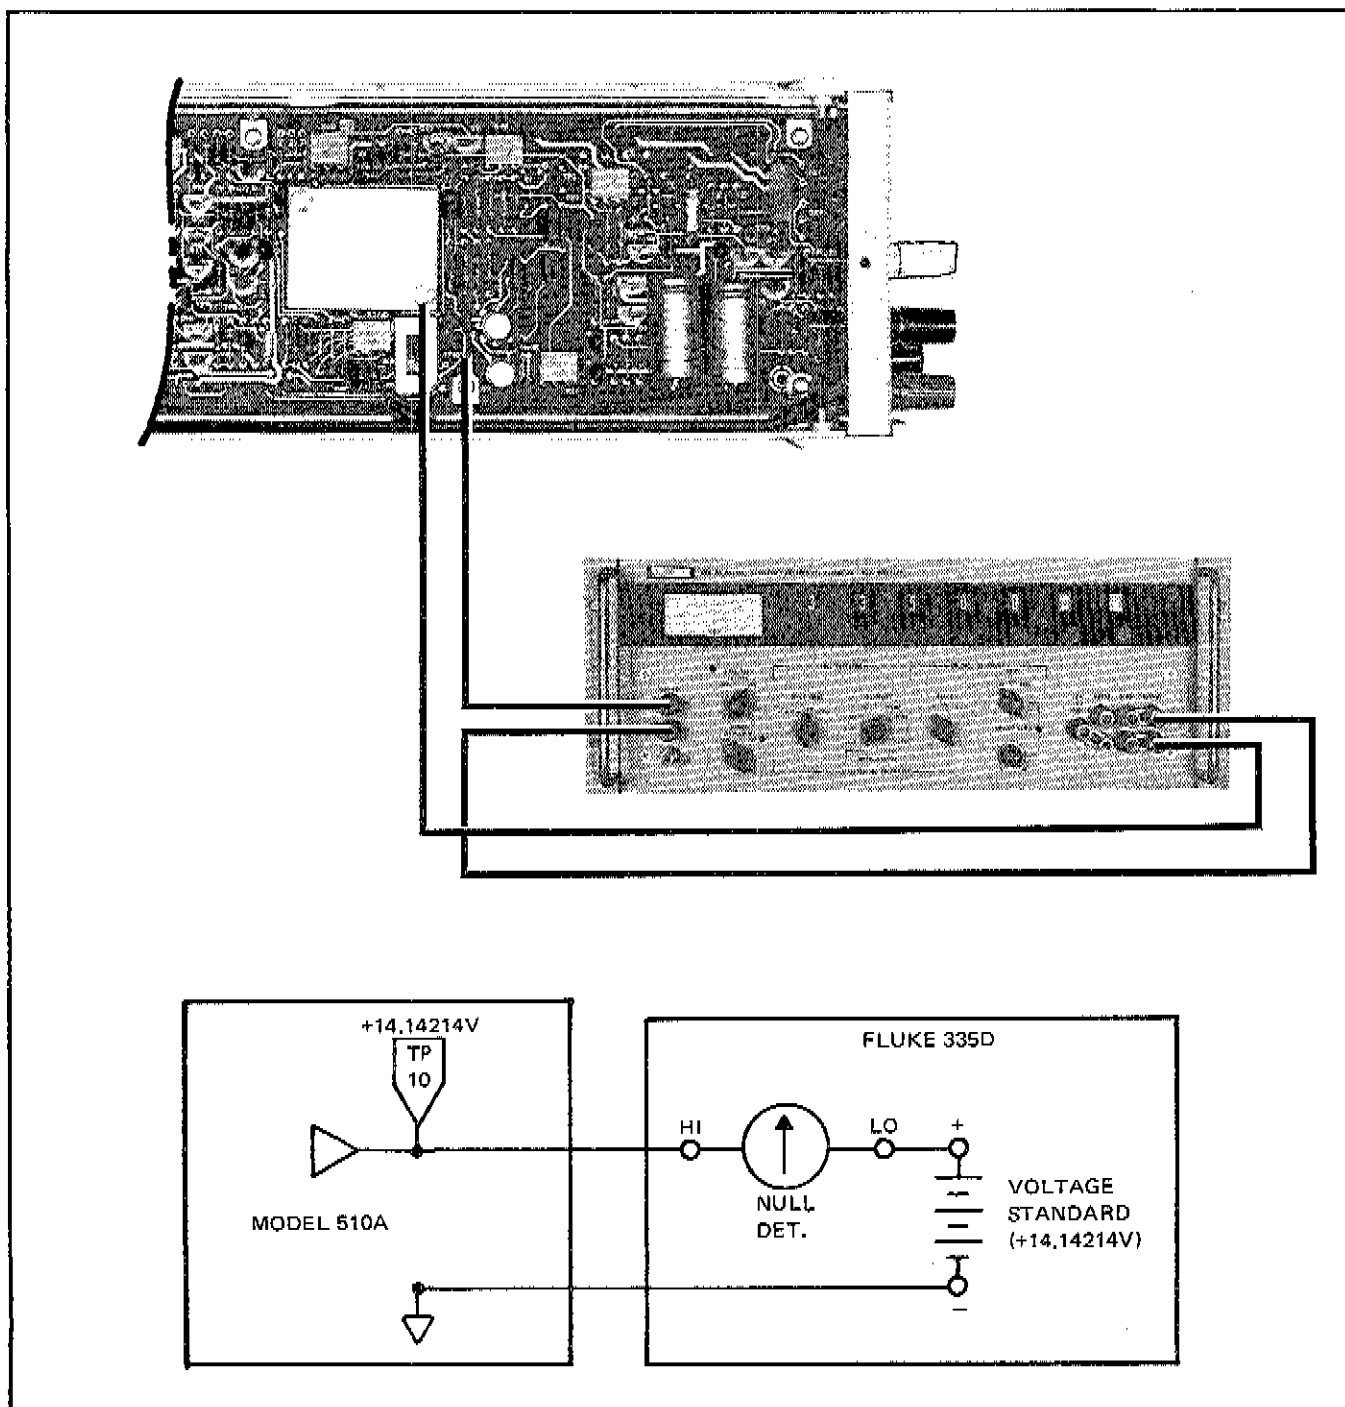

Figure 4-6. DC REFERENCE EQUIPMENT CONNECTIONS
- Make the equipment connections shown in Figure 4-6.
- c. Turn on the Model 510A and make the equipment connections shown in Figure 4-6.